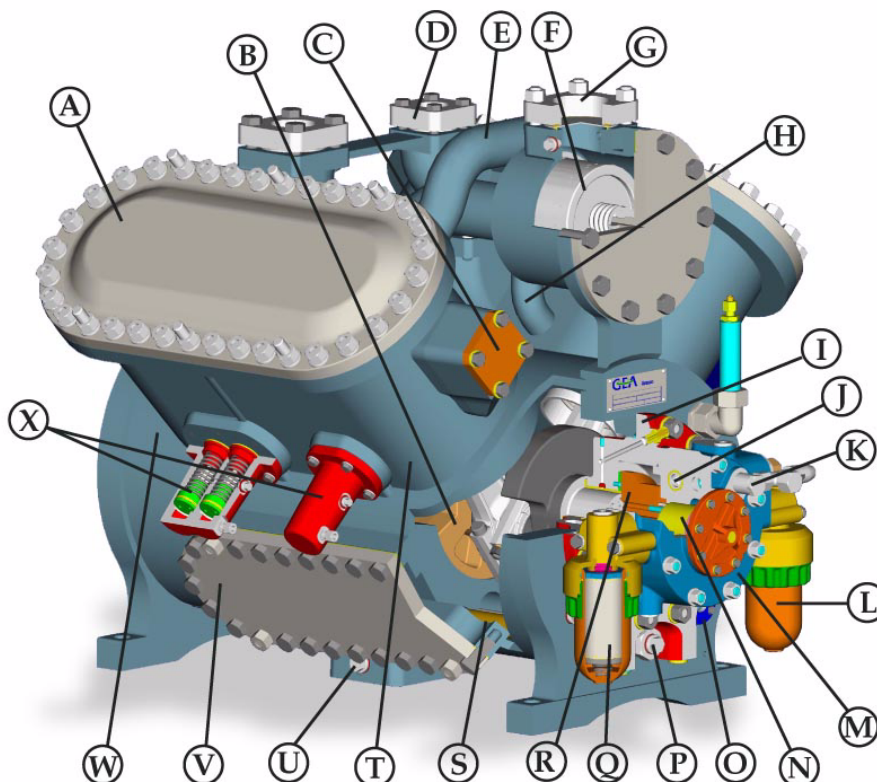
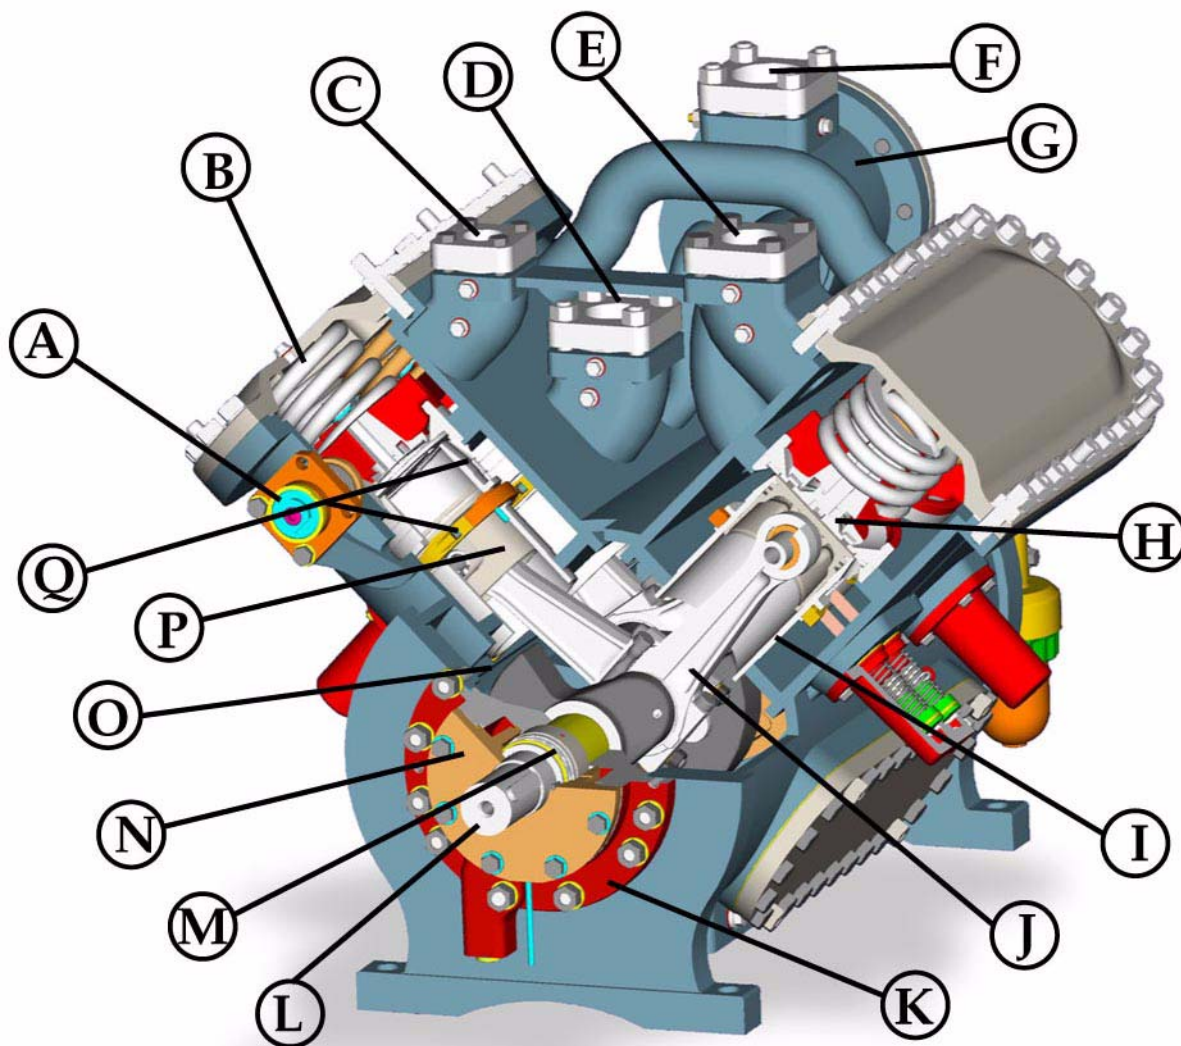

Fig. 1.6-1 Design of bare compressor (Grasso 4210)
Fig. 1.6-2 Design of bare compressor (Grasso 4210)
1.6.1 COMPRESSOR HOUSING (Fig. 1.6-1 and Fig. 1.6-2)